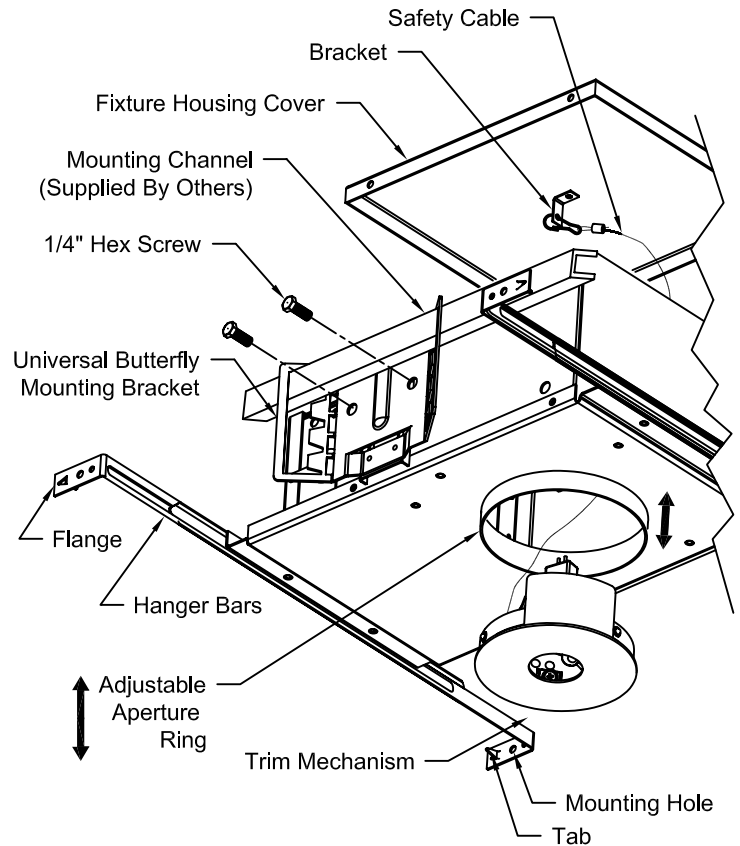
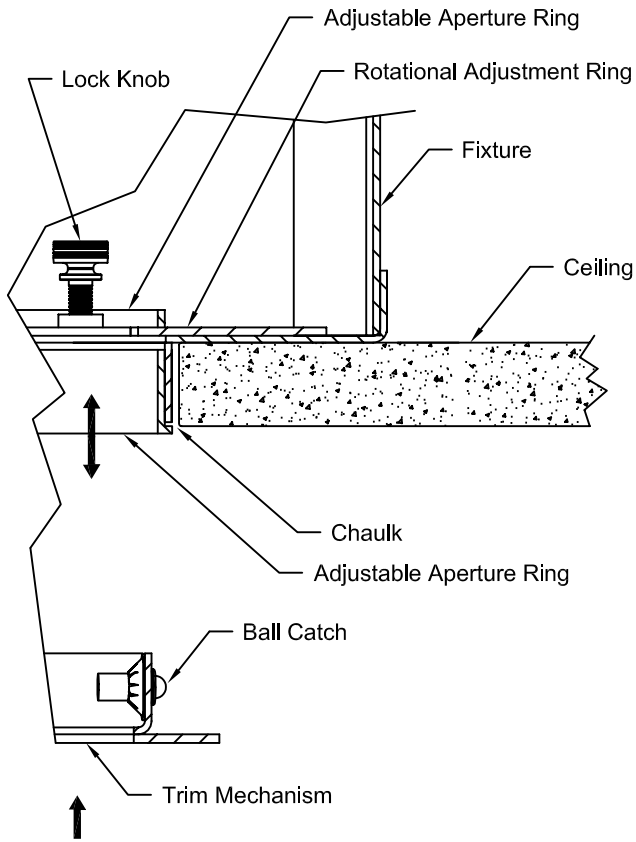

Figure 1
Figure 2
1. Fixture comes equipped with Universal Butterfly Mounting and can take common 1 inch or 1-1/2 inch Black Iron or Galvanized Mounting Channels (Supplied By Others). See Fig. 1.
5. Adjust elevation of Fixture so Adjustable Aperture Ring Edge will be flush with surface of finished Ceiling by loosening two (2) 1/4 inch HEX Screws on both Universal Mounting Brackets. See Fig. 1.
6. Tighten two (2) 1/4 inch Hex Screws on both Universal Butterfly Mounting Brackets to secure Fixture. See Fig. 1.
7. Install Ceiling drywall up to Adjustable Aperture Ring on Fixture. See Fig. 2.
8. Position Adjustable Aperture Ring to be in plane with Ceiling by sliding up or down. See Fig. 2.
3. Hammer Flanges to seat Hanger Bar Tabs in rafters. See Fig. 1.
4. Secure Hanger Bars using one (1) nail in Mounting Hole in each Flange.
5. Install Ceiling drywall up to Adjustable Aperture Ring on Fixture. See Fig. 2.
6. Position Adjustable Aperture Ring to be in plane with Ceiling by sliding up or down. See Fig. 1 & Fig. 2.
1. Connect Safety Cable attached to Banana Bracket on Trim Mechanism (See Fig. 1) to Fixture by inserting Safety Cable through opening in Fixture and inserting Snap Hook on end of Safety Cable into hole in Bracket attached to inside of Fixture Housing Cover (See Fig. 1).
2. Install Trim Mechanism into Fixture by pressing firmly to engage Ball Catches. See Fig. 2.